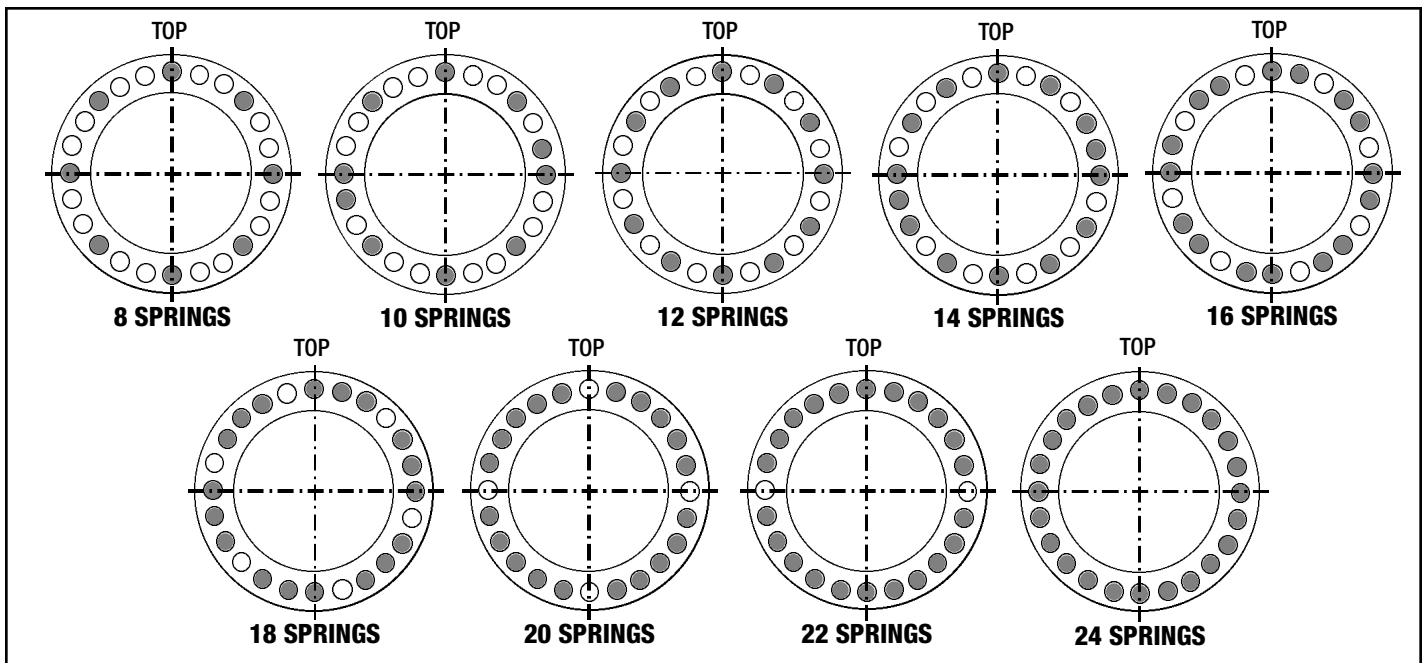

Figure 5.8 - Large E-Stop Brake Spring Placement
7. Place the Piston Housing and Piston Sub-Assembly onto the Main Housing (#9). Make sure the (3) Driver Pins (#210) are aligned with the (3) mating holes in the Piston Housing. Attach with (6) Screws (#66) and (6) Lockwashers (#74). **Torque to 60 Ft. Lbs.**
8. Set the End Housing on the work bench with the Spring Pins (#54) pointed up. Place the correct number of Springs (#40) over the spring pins. (See Figure 5.8 above for correct placement of these springs.)
10. Insert the (6) Screws (#67) and (6) Lockwashers (#74) and finger tighten them to just hold the brake together. Turn the brake over with the End Housing (#16) facing up. Tighten the (6) Screws down in an even manner to compress the Springs (#40) correctly. **Torque to 60 Ft Lbs.**